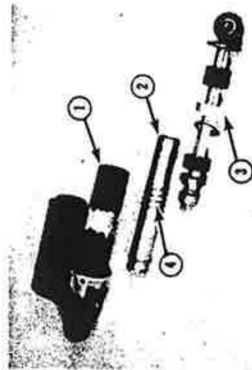

Fig. 3
9. Seal gap between filter base and air box with the same sealant. Apply a large quantity and work it in thoroughly by hand. (Figure 3)
An alternate method is to drive nut off using a punch in the nut holes. This method may damage the cylinder housing (Ref. 1, Fig. 3). Use extreme care.
7. Remove and discard cylinder (Ref. 2, Fig. 3).
9. Install replacement cylinder. Note location of coil spring around cylinder. This is an anti-foaming device and must be in place at the approximate center of cylinder (Ref. 4, Fig. 3).
10. Install replacement piston rod assembly. Check location of O-ring at base of rod nut. Piston seal is incorporated within rod nut (Ref. 3, Fig. 3).